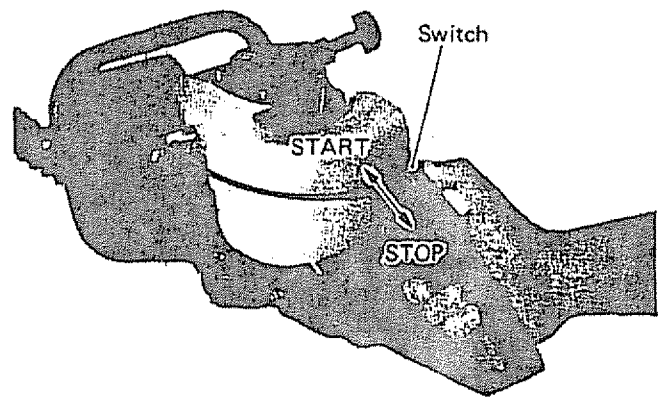

Figure 1
1. When starting the engine, set the switch to START. (Figure 1)
- Set the stop switch to stop. (Figure 1)